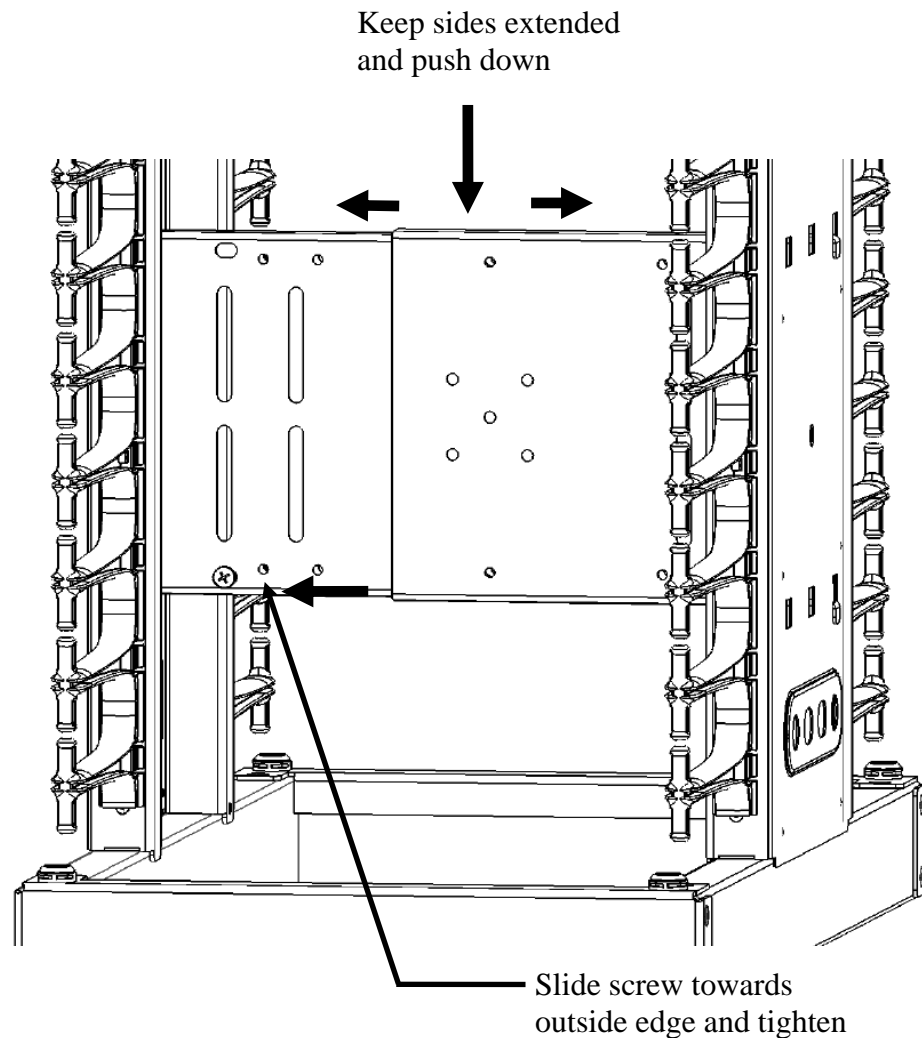

FIGURE 3
5. Telescope the sides of the panel outward until the mounting tabs pass through the desired mounting slots (Figure 3).